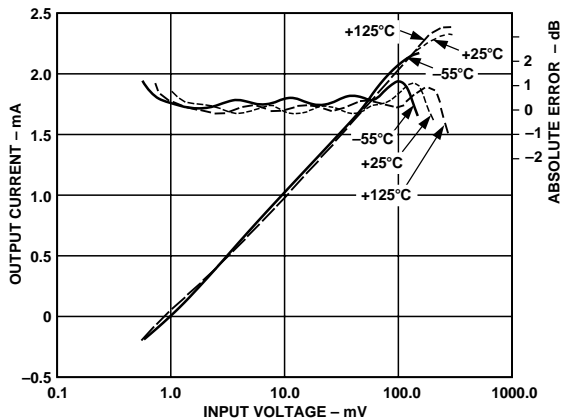
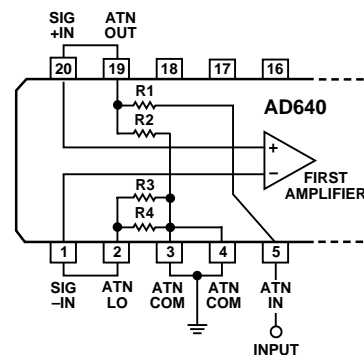
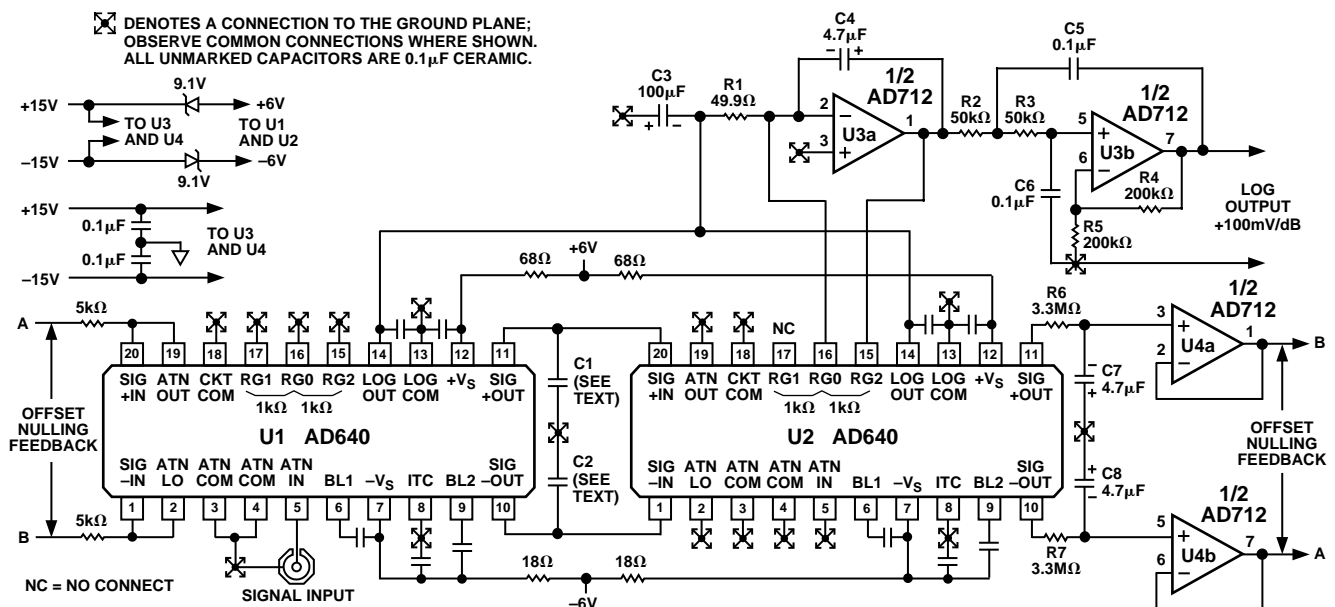

Figure 18. Logarithmic Output and Absolute Error vs. DC or Square Wave Input at  $T_A = -55^\circ\text{C}$ ,  $+25^\circ\text{C}$ , Input Direct to Pins 1 and 20
Figure 26. Details of the Input Attenuator
Figure 32. Complete 95 dB Dynamic Range Converter
The logarithmic function of the AD640 is absolutely calibrated to within  $\pm 0.3$  dB (or  $\pm 15$   $\mu\text{A}$ ) for 2 kHz square-wave inputs of  $\pm 1$  mV to  $\pm 100$  mV, and to within  $\pm 1$  dB between  $\pm 750$   $\mu\text{V}$  and  $\pm 200$  mV. Figure 18 is a typical plot of the dc transfer function, showing the outputs at temperatures of  $-55^\circ\text{C}$ ,  $+25^\circ\text{C}$  and  $+125^\circ\text{C}$ . While the slope and intercept are seen to be little affected by temperature, there is a lateral shift in the endpoints of the “linear” region of the transfer function, which reduces the effective dynamic range. The cause of this shift is explained in Fundamentals of Logarithmic Conversion section.
In applications where the signal amplitude is sufficient, the on-chip attenuator should be used because it provides a temperature independent dynamic range (compare Figures 18 and 19). Figure 26 shows this attenuator in more detail. R1 is a thin-film resistor of nominally 270  $\Omega$  and low temperature coefficient (TC). It is trimmed to calibrate the intercept to 10 mV dc (or  $-24$  dBm for sinusoidal inputs), that is, to an attenuation of nominally 20 dBs at 27°C. R2 has a nominal value of 30  $\Omega$  and has a high positive TC, such that the overall attenuation factor is 0.33%/°C at 27°C. This results in a transmission factor that is proportional to absolute temperature, or PTAT. (See Intercept Stabilization for further explanation.) To improve the accuracy of the attenuator, the ATN COM nodes are bonded to both Pin 3 and Pin 4. These should be connected directly to the “SIG-NAL LOW” of the source (for example, to the grounded side of the signal connector, as shown in Figure 32) not to an arbitrary point on the ground plane.
A low-pass filter between U1 and U2 can limit the noise bandwidth and extend the dynamic range. The simplest way to do this is by the addition of a pair of grounded capacitors at the signal outputs of U1 (shown as C1 and C2 in Figure 32). The
To increase the dynamic range it is necessary to reduce the bandwidth by the inclusion of a low-pass filter at the signal interface between U1 and U2 (Figure 32). To provide operation down to low frequencies, dc coupling is used at the interface between AD640s and the input offset is nulled by a feedback circuit.